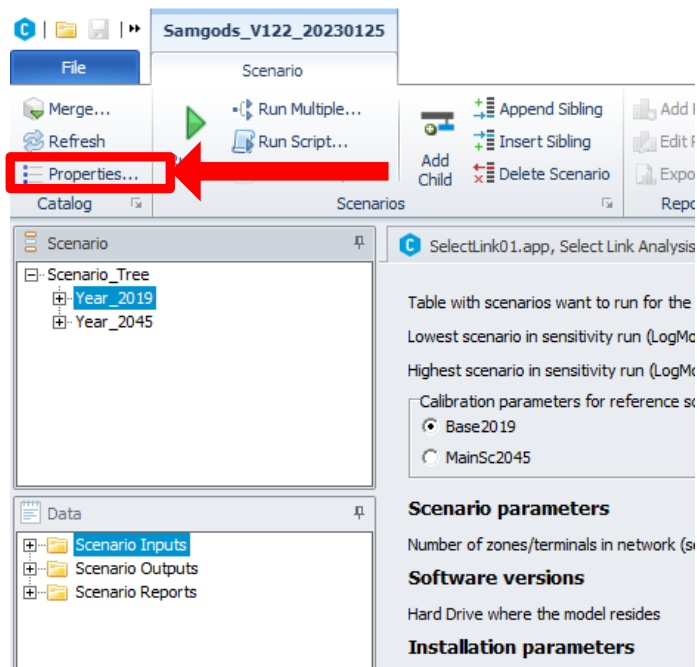

Figure 44 How to access “Catalog Properties”
- Select “Properties” on the menu bar under section “scenario (see Figure 44)